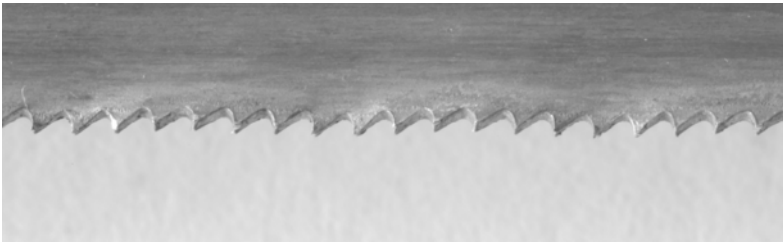

Figure 2.15
- Is the blade inserted the correct way round? (It should cut on the forward stroke) (see Figure 2.15).